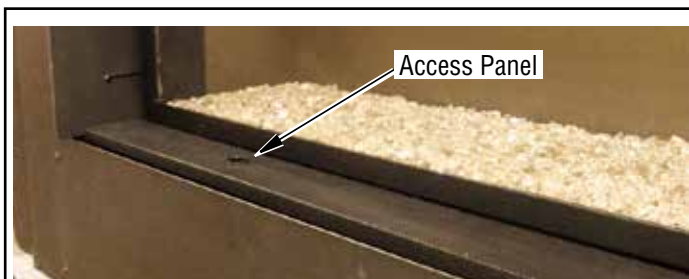

Figure 43A - Accessing The Control Compartment
- Remove the control compartment access panel (**Figure 43A**).